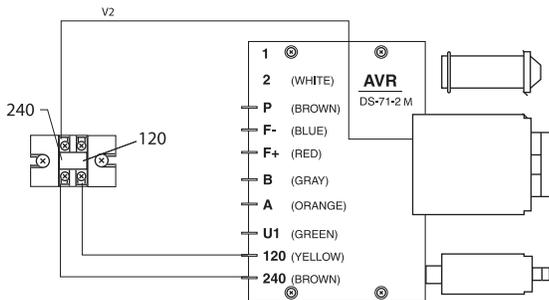

Figure 27: Control Terminal Board, 240 Volt Output
- a. 240 volt output can be selected by connecting the terminals of the control terminal board to 240 (Figure 27).